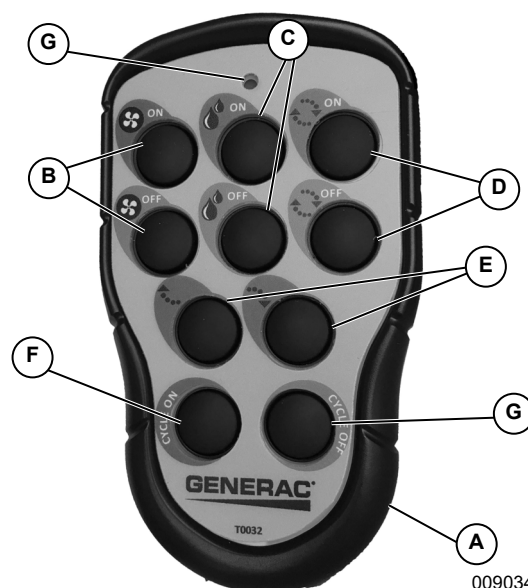

Figure 3-9. Transmitter
3. See Figure 3-9. Switch main on-off switch (A) on back of transmitter to ON.